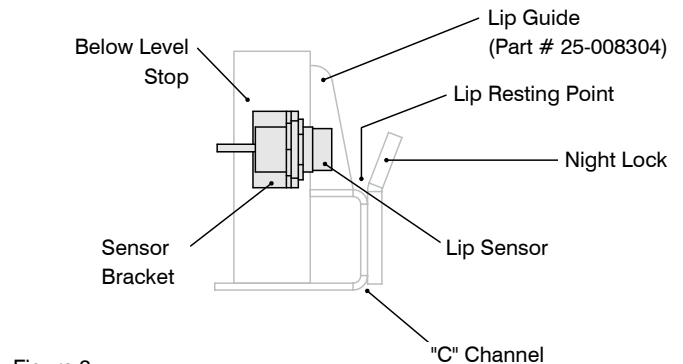

Figure 3
- Using a "C" clamp, clamp the new guide gusset to the below level stop, as seen in Figure 3. The guide should be at the bottom, approximately $\frac{3}{8}$ " (10 mm) away from the night locks.